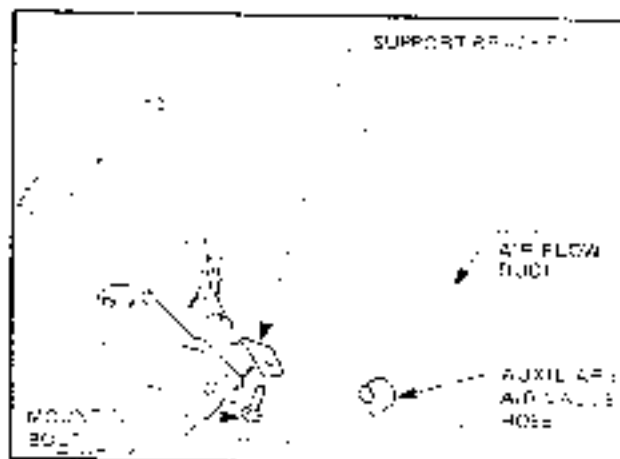

Figure 6C-74
3. Remove the engine ventilation hose bracket bolt from underneath air flow duct. Refer Fig. 6C-74A.